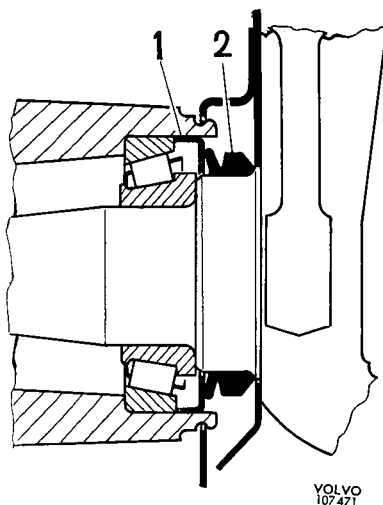

Fig. 6-20. Hub seal
1. Place the inner bearing in position in the hub and press in the sealing washer (1, Fig. 6-20) until it is against the outer ring bearing. Use drift 5005 and standard handle 1801.
3. Press the sealing ring (2, Fig. 6-20) onto the stub axle without tool until it bottoms. It is important that the ring is not fitted obliquely.